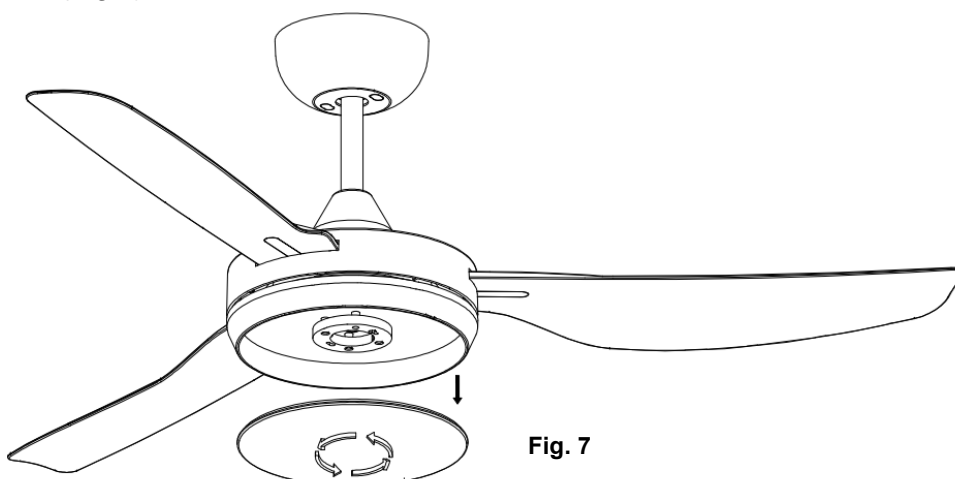

Fig. 7
- If lamp (Not included) is required, remove the bottom cover from the fan assembly by turning counterclockwise. (Fig.7)